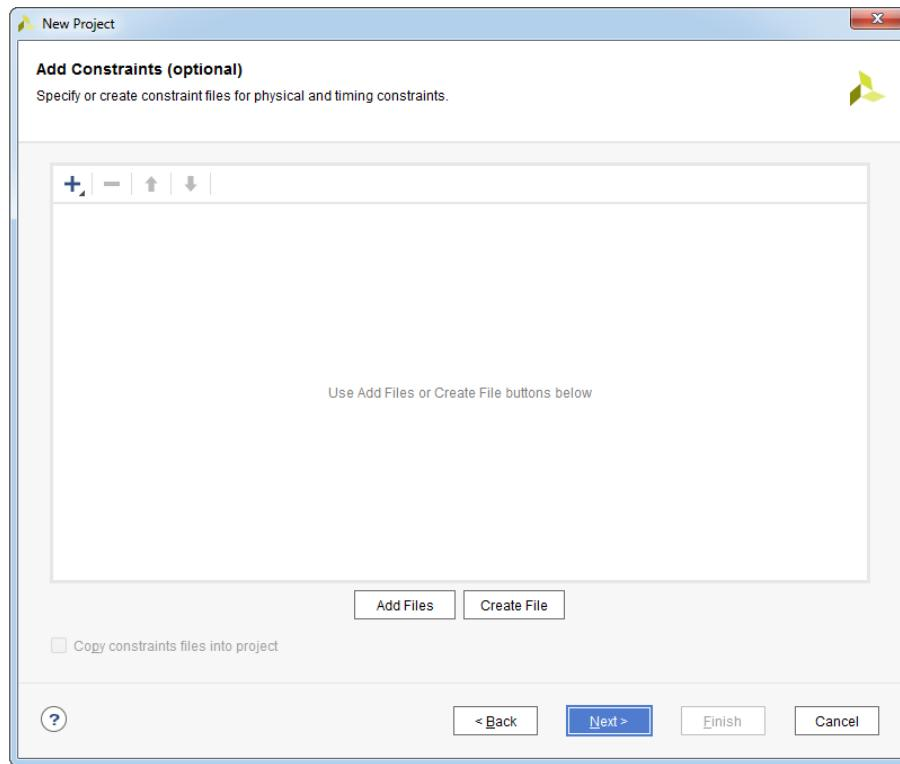

Figure 12.9: Add Constraints (optional) dialog box
9. In the **Add Constraints (optional)** dialog box, remove if there are some constraints files, and click **Next**, see Figure 12.9.